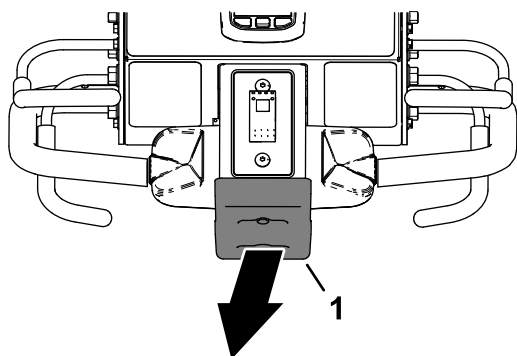

Figure 99
2. Move away from the bump-stop switch (Figure 99).